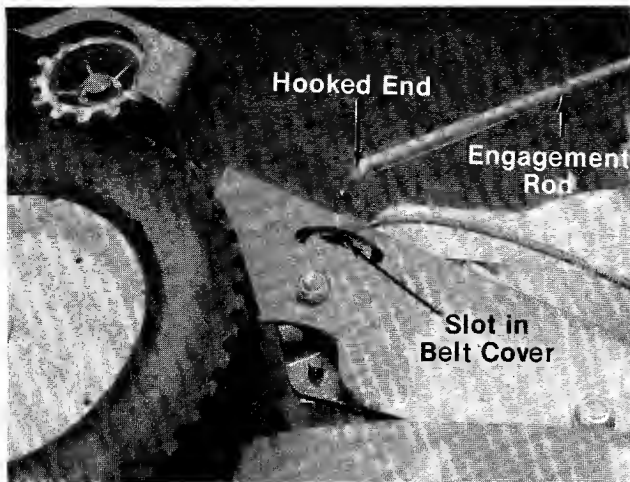

FIGURE 7.
8. Hook the end of engagement rod into idler bracket located inside slot on belt cover. See figure 7.